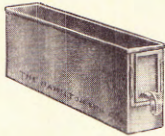

Fig. 52—No. 3452, Steel Sort Box; 32 of these furnished with cabinet.
2. **It is a Lead and Slug Rack** (see A and E and F), holding 1465 lbs. of leads and slugs from 4 to 9½ picas by ens and from 10 to 50 picas by ems. Each compartment in rack is 10½ in. high, and 4 compartments each are allotted to lengths from 10 to 20 picas inclusive. Compartments in lead bank (A) on overhead bank (B) are double depth, each 7 in. long. Strip leads and rules have places in two drawers (Nos. 24 and 25) at K in picture on opposite page.
3. **It is a Space and Quad Cabinet.** At C are 8 large bins for holding 8 sizes of quads. At D steel boxes (figs. 52, 53) are provided, filling 8 compartments,
No. 3452—Steel Sort Box (fig. 52), additional to those supplied with cabinets, 1½x6x3 in.; capacity, 2 lbs. 10 oz.; weight, 5½ oz.